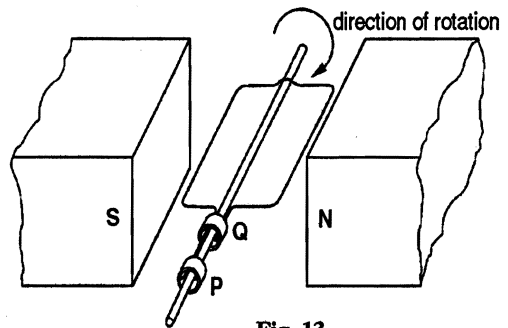

Fig. 13
- 70 Fig. 13 is a diagram of a simple a.c. generator.
- how we know that at the instant shown in Fig. 13, the slip-ring P is positive,
- (b) The coil of the generator rotates 2.5 times in each second; at this speed, the maximum value of the induced e.m.f. is 20 mV. On graph paper, sketch a graph of e.m.f. against time for a time interval of 1 s from the instant shown in Fig. 13. [4]
- how the beam of electrons in a cathode-ray tube can be made to move vertically by voltages such as the output of the generator shown in Fig. 13. [6]